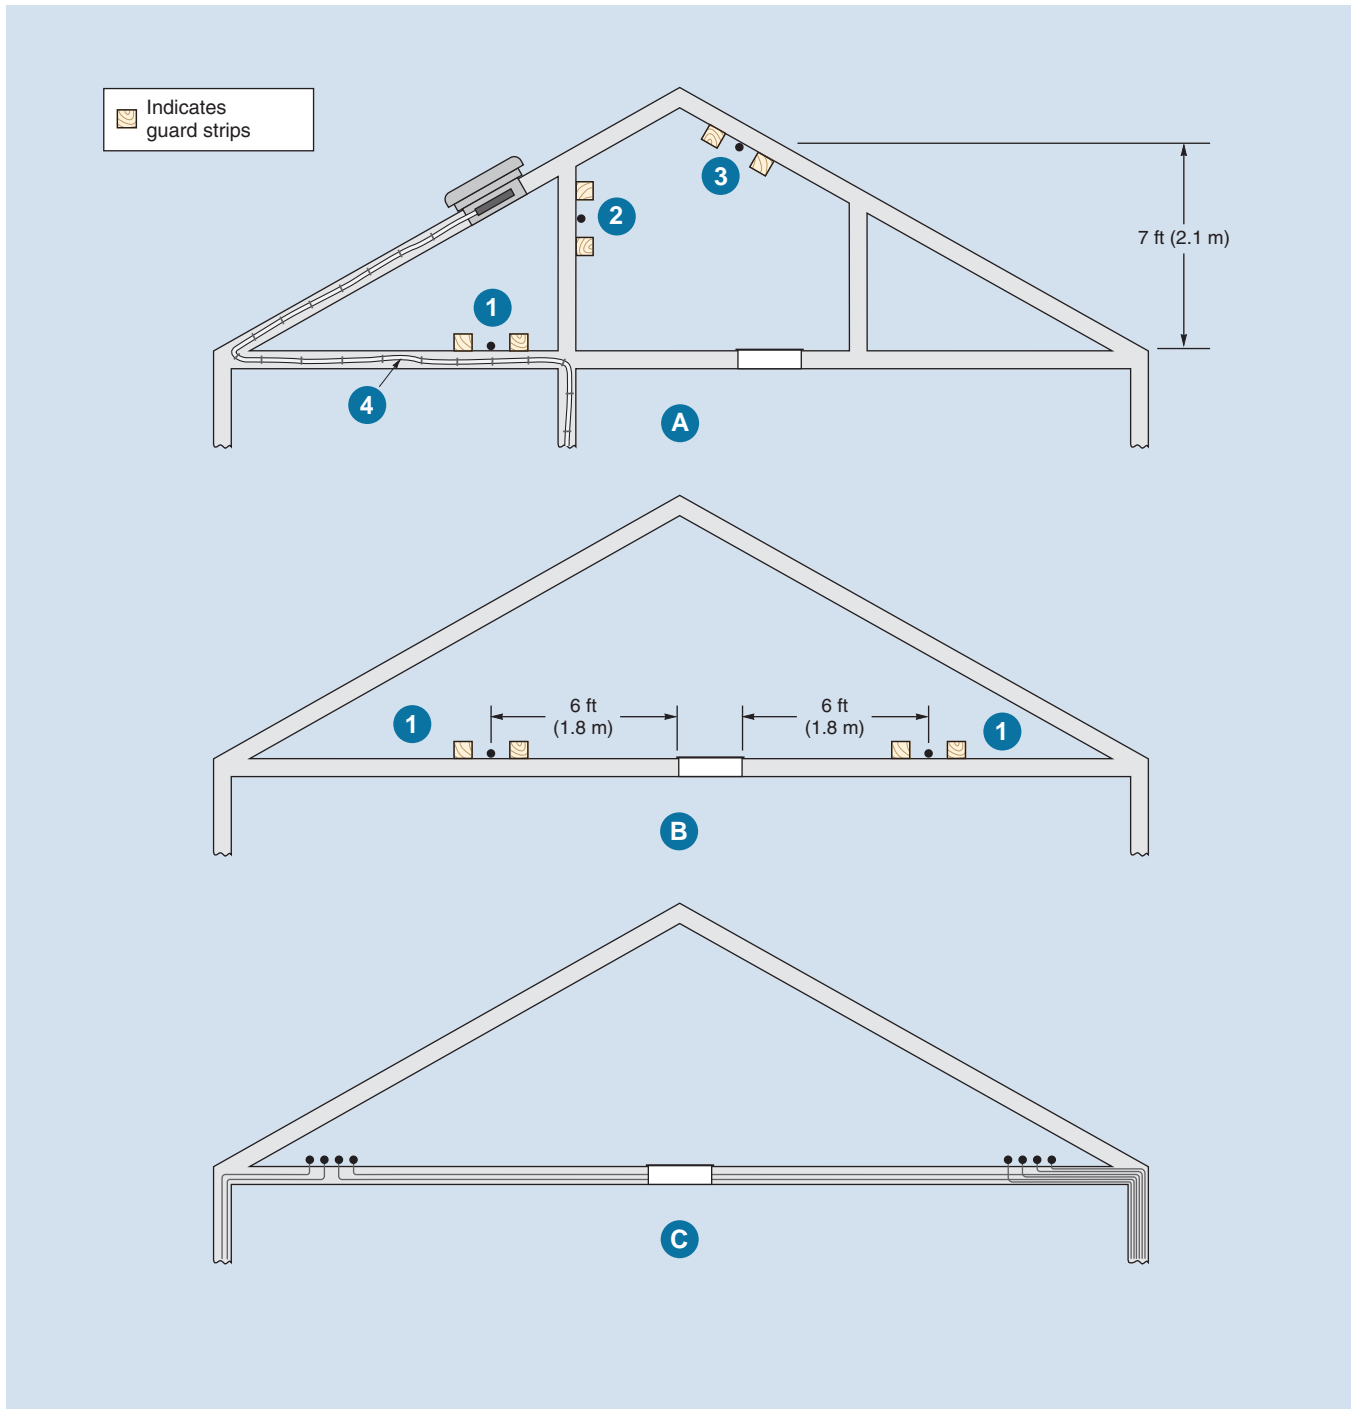

FIGURE 15-13 Protection of nonmetallic-sheathed cable or armored cable in an attic. Refer to 334.23 and 320.23. (Delmar/Cengage Learning)
to the requirements of 334.23. This section refers the reader directly to 320.23, which describes how the cable is to be protected. See Figures 15-13 and 15-14.
In attics not accessible by permanent stairs or ladders, as in Figure 15-13(B), guard strips are required only within 6 ft (1.8 m) of the nearest edge of the scuttle hole or entrance.
Figure 15-13(C) illustrates a cable installation that most electrical inspectors consider to be safe. Because the cables are installed close to the point where the ceiling joists and the roof rafters meet,